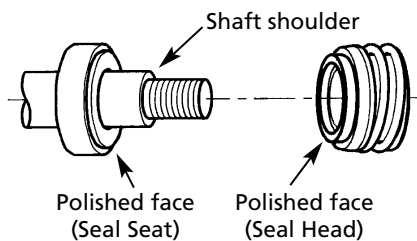

Figure 2
Refer to Figures 2 & 3.
IMPORTANT: Be sure that shaft shoulder does not damage polished face (see figure 2).
- Wet the inside rubber portion of new seal head with a light coating of soapy water. Slide head onto motor shaft with sealing surface facing seal seat. (See Figure 2). This completes seal installation. Proceed to "Shim Adjustment" to complete assembly of pump.